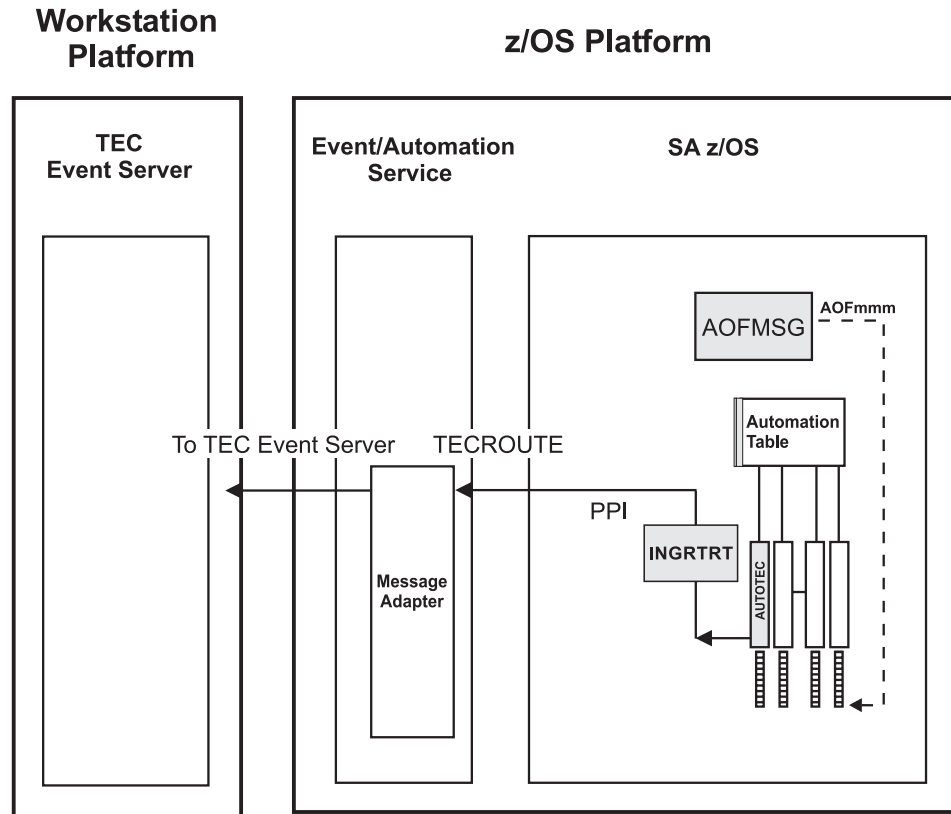

Figure 7. Local Configuration: NetView Event/Automation Service Local to the SA z/OS Source of Messages
- **local configuration:** The message adapter or alert adapter is running on the same z/OS system on which SA z/OS is also running. The adapters are local to the SA z/OS which is issuing and forwarding messages and alerts to the Tivoli Enterprise Console. Such a configuration for message forwarding is illustrated in Figure 7 on page 44.